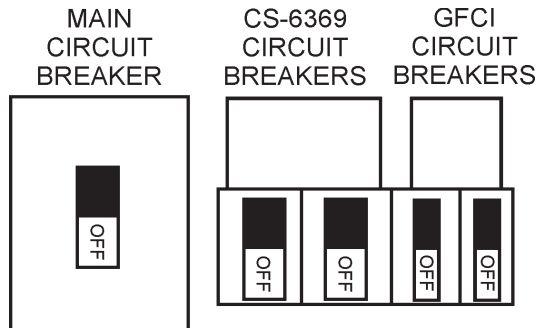

Figure 53. Main, AUX. and GFCI Circuit Breakers (OFF)
1. Switch the **MAIN**, **AUX** and **GFCI** circuit breakers (Figure 53) to the **OFF** position (no load).
1. To shut-down the engine in the event of an emergency, switch the **MAIN**, **GFCI** and **LOAD** (Figure 53) circuit breakers to **OFF** position.